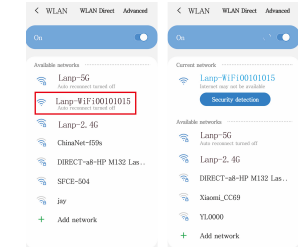

Figure 14
- D. WiFi connection succeeded as shown in Figure 14.